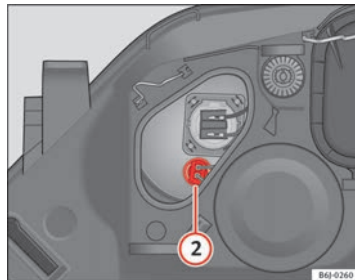

Fig. 149 Side lights
- Remove connector ⇒ fig. 149 ② by pulling outward.